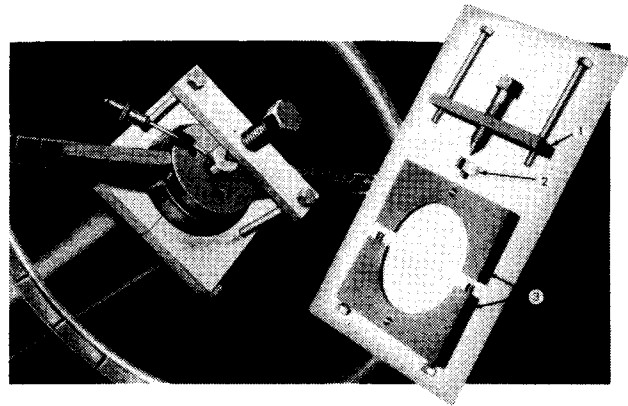

FIG. 5
Remove the horn ring or cross bar, horn contact cap and pad. Remove the steering wheel retaining nut. Install the two halves of the adapter plate (3, Fig. 5) of the Wheel Puller J-4146 at the base of the steering wheel. Place the adapter (2) in the end of the steering post being sure the horn wire is in the slot provided in the adapter. Install the puller cross bar and screw (1) and pull the steering wheel from the post.